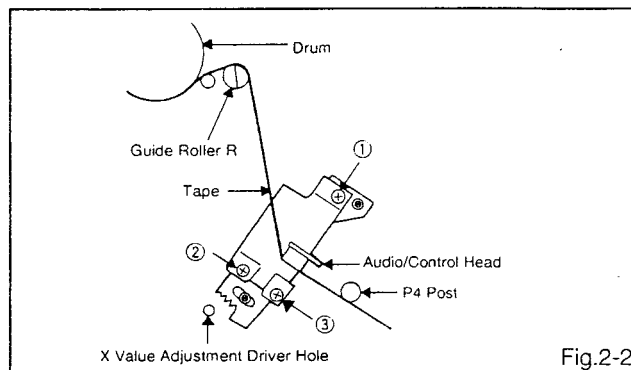
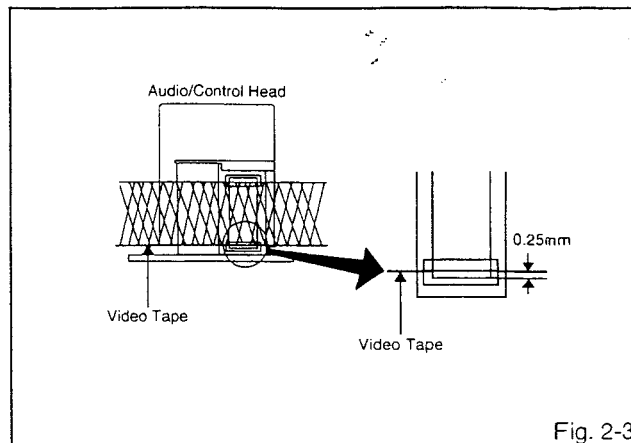

Fig. 2-2
Fig. 2-3
2. Confirm that there is no crease on the tape between the P4 post and guide roller (R) and the tape is running smoothly. (It is absolutely impossible to get satisfactory sound if the tape is distorted between the A/C head and P4 post.)
3. If the tape still does not run smoothly, turn the screw ① and adjust the tilt of the A/C head. (Refer to Fig. 2-2)
2. Turn the screw ② slowly to change the azimuth of the A/C head. Adjust the height so that the audio output becomes maximum. (Refer to Fig. 2-2)
3. Adjust the screw ③, (Refer to Fig. 2-2) until the height of the A/C head reaches the position against the tape as shown in Fig. 2-3.
4. When the control head height is not correct. (When you must turn the screw more than 45 degrees), Turn all of the screws ①, ② and ③ to the same degrees. Then confirm the angle of the audio/control head and adjust again.